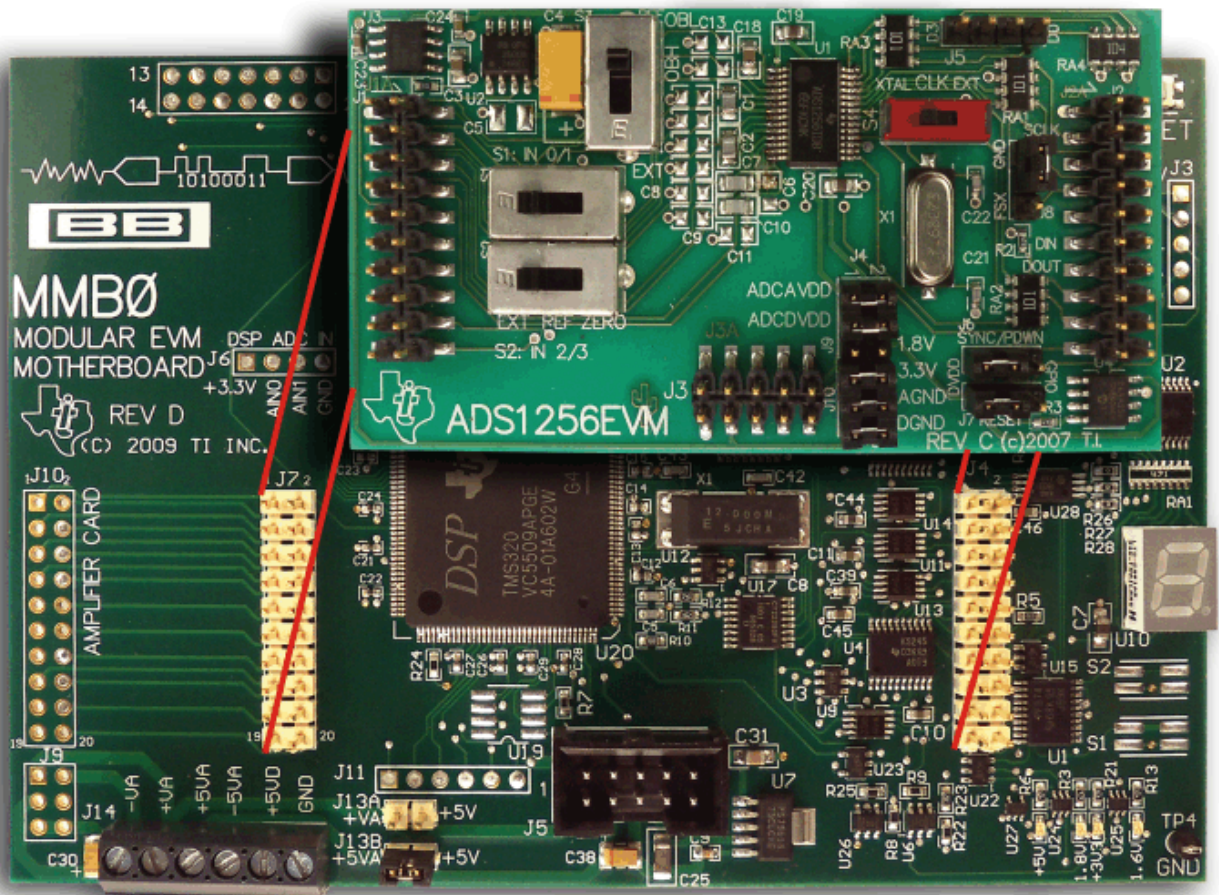

Figure 13. Connecting the ADS1256EVM to the MMB0
Step 4. Set the jumpers and switches on the ADS1256EVM as shown in Figure 13 (note that these settings are the factory-configured settings for the EVM):